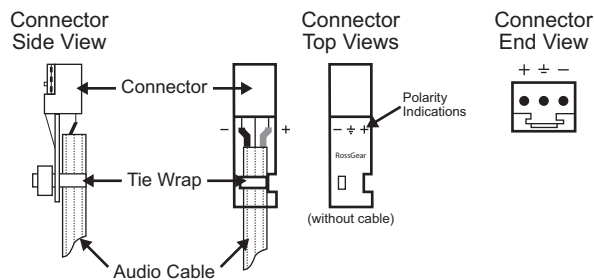

Figure 53 Connector Wiring for the Breakout PCB 3-pin Connectors
1. Insert a wire to the designated polarity slot on the connector of the rear panel. (**Figure 53**)